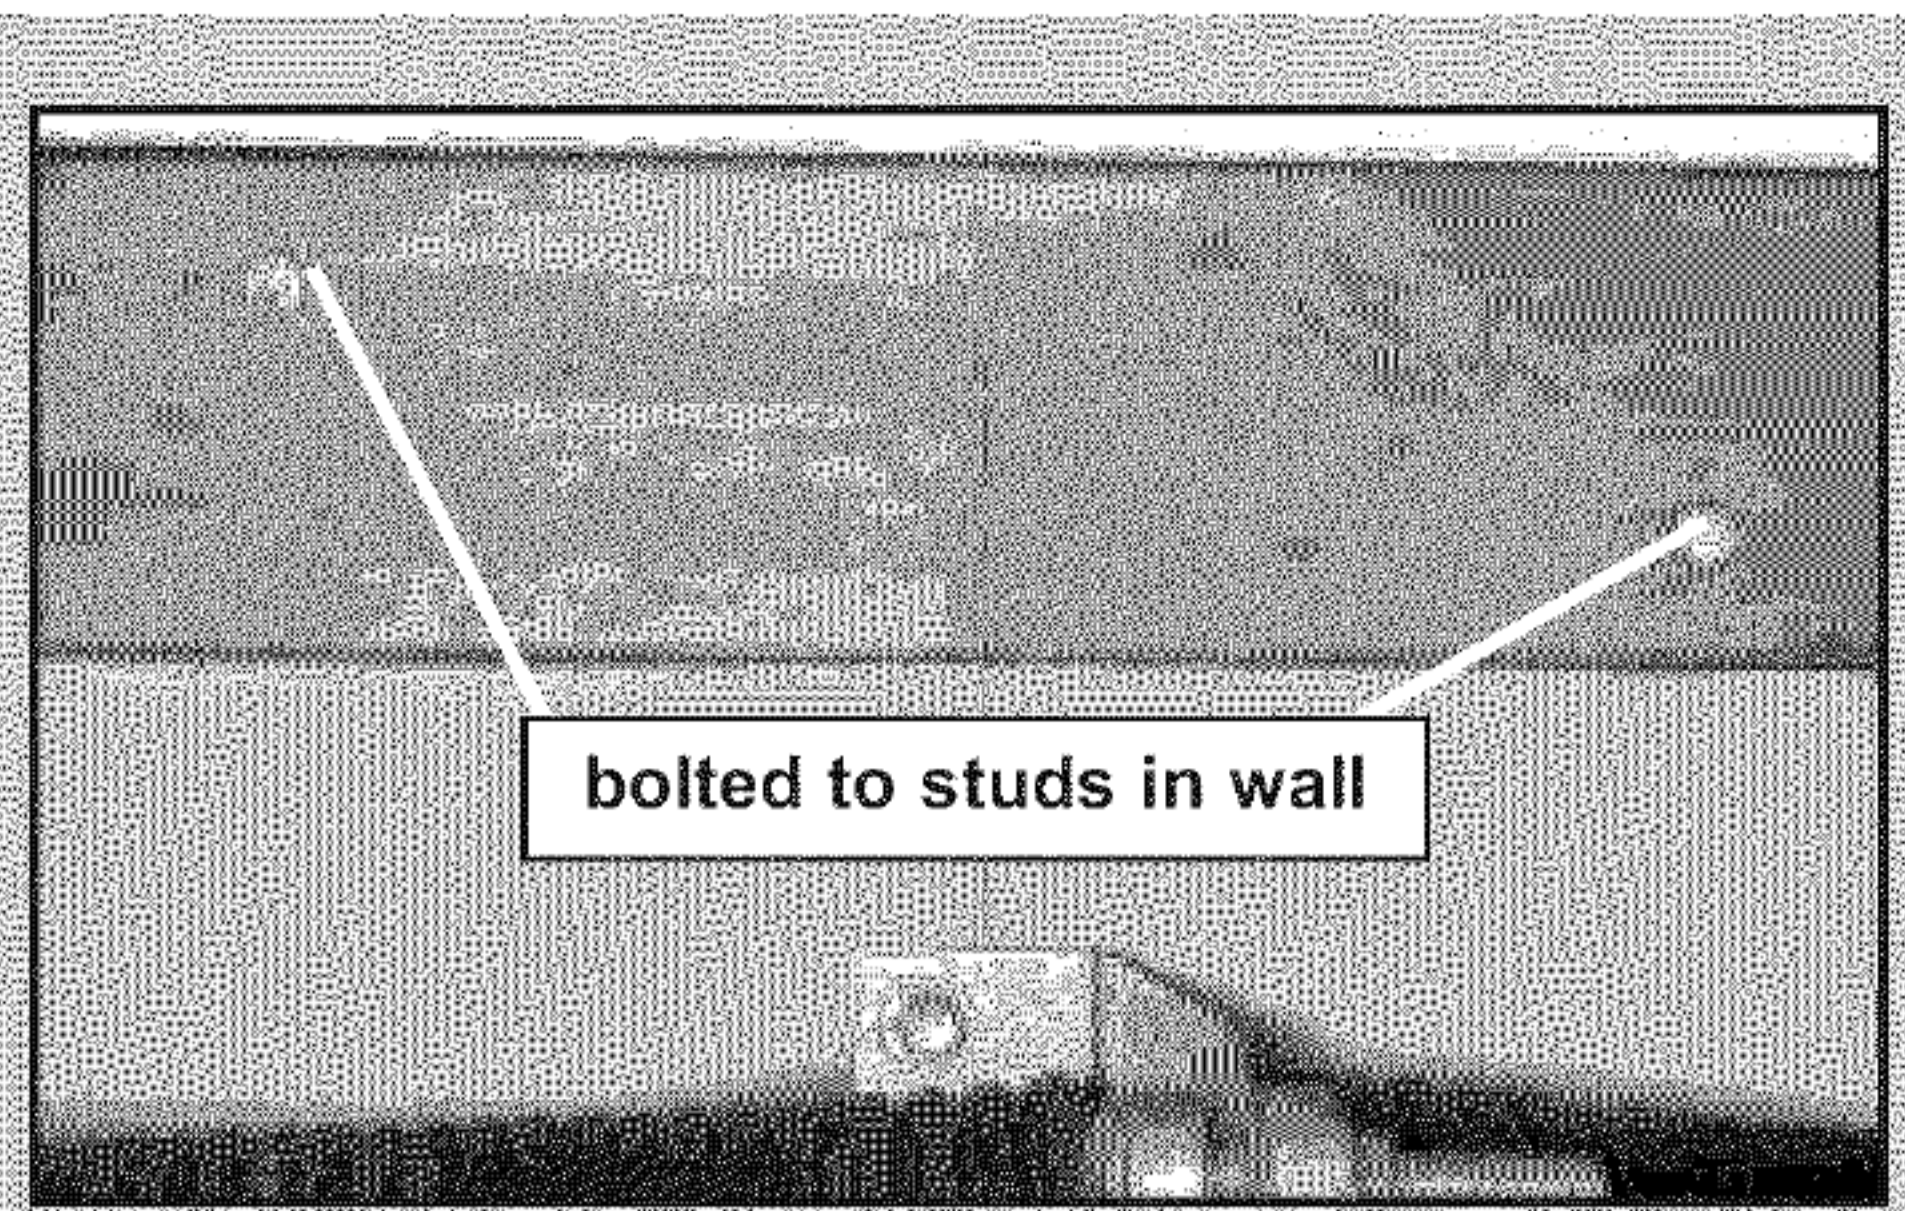

FIG. 2-4 Adding mounting surface
**NOTE:** If header bracket location needs to be above header for garage door opening, you need to add a "mounting surface." A 2" x 6" board securely attached (fasteners not included) across wall studs on either side of your mark is sufficient (Fig. 2-4).